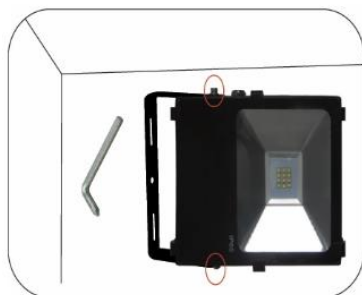

Figure 4.
2. Secure fixture to fixtures mounting bracket and tighten side set-screws. **See figure 4.**